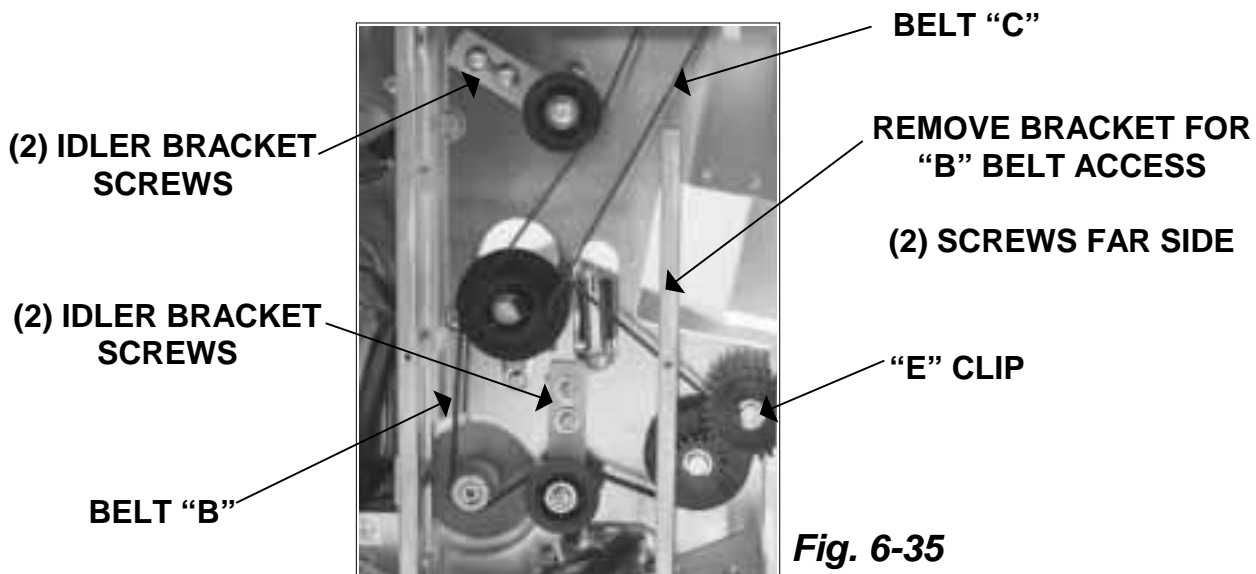

Fig. 6-35
8.	CONT. BELTS "B" AND "C". Fig.6-35 Loosen (2) idler bracket screws.
9.	CONT. BELT "B" (Platen Pulley) Remove (2) screws to detach bracket for "B" belt access. Fig.6-35
10.	Loosen (2) idler bracket screws.
12.	<ul style="list-style-type: none"> • Remove (2) screws from far side of bracket. • Remove belt "B" from pulleys. • Slide a replacement belt over the gears. Replace bracket removed in STEP 9.